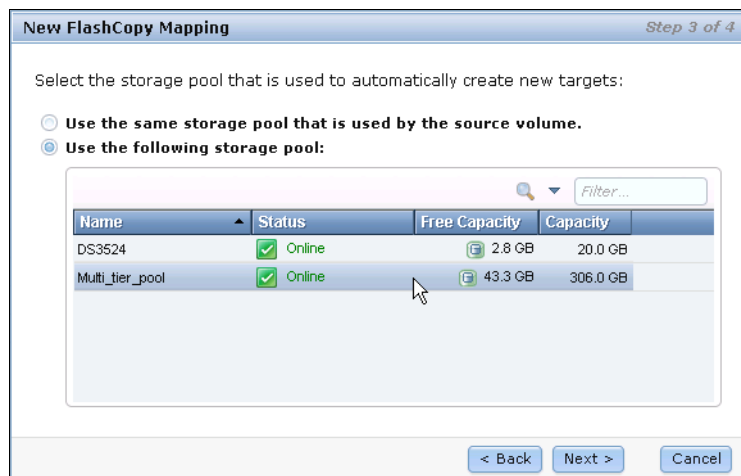

Figure 9-21 Choose another storage pool to create the volume
- d. You can also specify some other storage pool for your new volume (Figure 9-21). Click **Next** to continue.